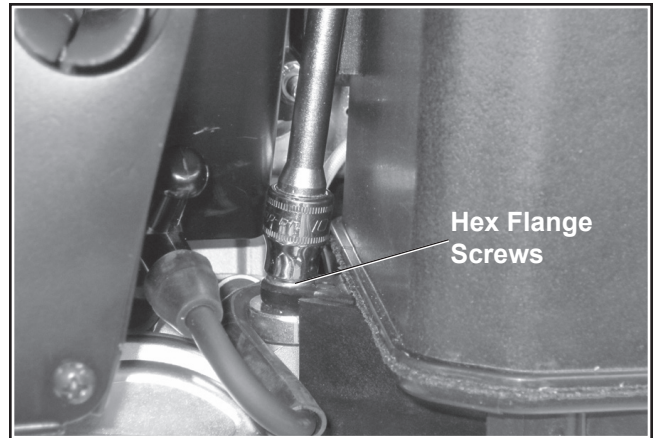

Figure 11. Remove Air Box Screw.
- Remove one hex flange screw and two hex nuts securing the air box to the carburetor, and remove the air box from the studs. See Figures 11 and 12.